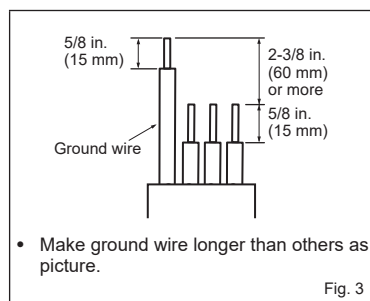

Fig. 3
- 7) Process the end of ground wire (Fig. 3). Connect it to the ground terminal of electrical parts box.
- 8) Process the end of indoor/outdoor unit connecting wire (A) (Fig. 3). Attach it to the terminal block. Be careful not to make mis-wiring. Attach the wire to the terminal block securely so that its core cannot be seen, and no external force affects the connecting section of the terminal block.